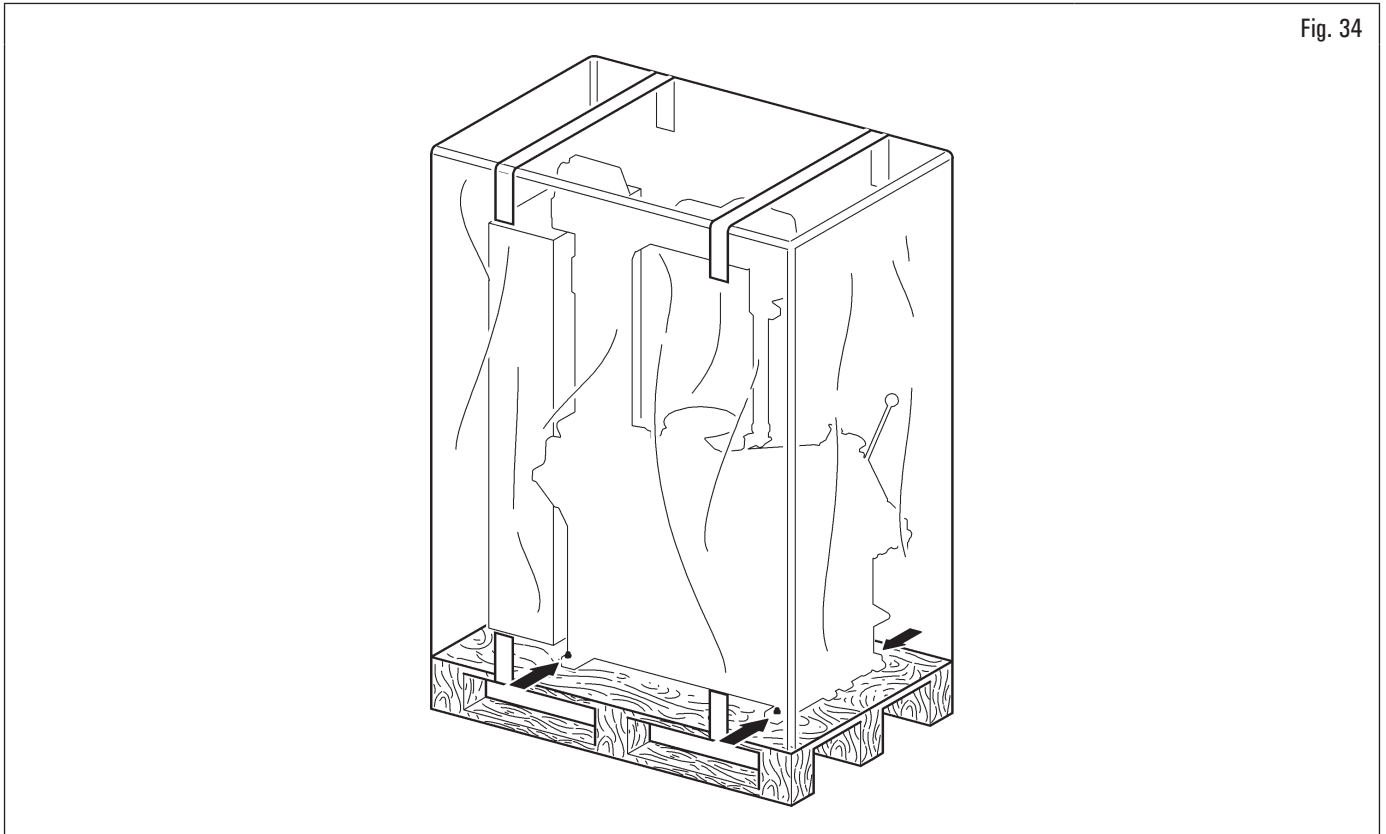

Fig. 34
- The equipment is usually shipped partially assembled as shown in Fig. 34.
- lift carefully, using adequate load support means, in perfect working order, using the appropriate signs placed on the packaging Fig. 34.